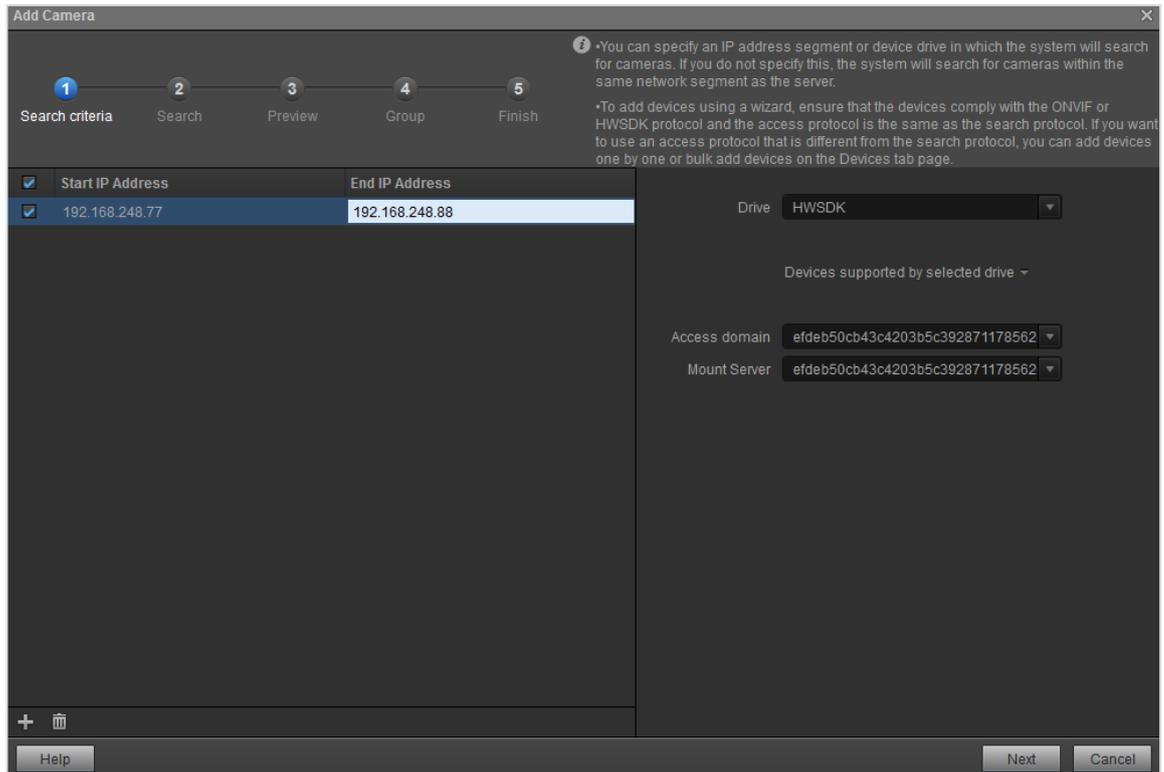

Figure 6-1 Set the start and end IP addresses.
- Click  in the lower left corner and enter the start IP address and end IP address of the camera, as shown in Figure 6-1.